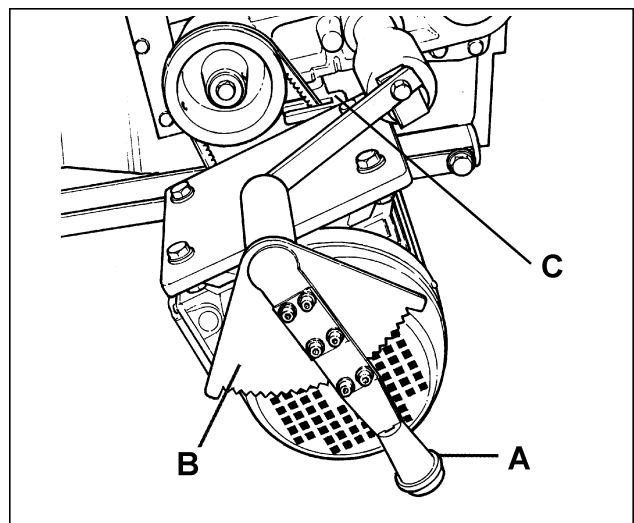

FIGURE 33
1. Pull and turn handle (A-Fig. 33) to the left to loosen the belt. Slip the belt into the appropriate pulley groove. Check the indicator (C-Fig. 33) for correct position.
3. Adjust the tension by pulling and turning handle (A-Fig. 33) to the right, and engaging it into the serrated span sector (B-Fig. 33).